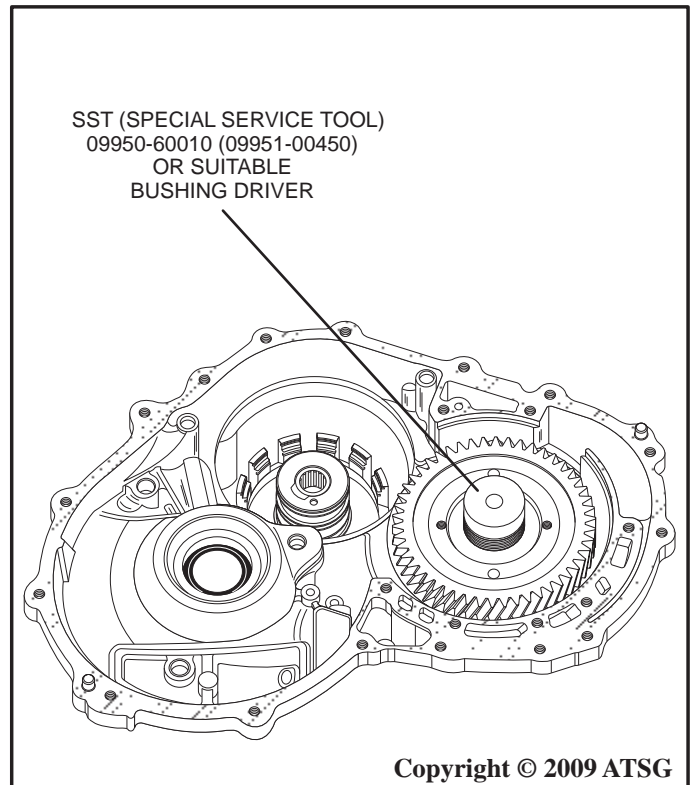

Figure 55
95. Place transaxle housing in a suitable press, then using SST 09950-60010 (09951-00450) or a suitable bushing driver, carefully press the front planetary assembly through the counter drive gear as shown in Figure 55.